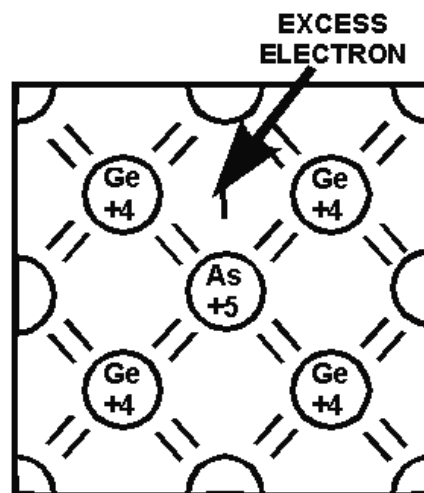

Figure 1-10.—Germanium crystal doped with arsenic.
When a pentavalent (donor) impurity, like arsenic, is added to germanium, it will form covalent bonds with the germanium atoms. Figure 1-10 illustrates this by showing an arsenic atom (AS) in a germanium (GE) lattice structure. Notice the arsenic atom in the center of the lattice. It has 5 valence electrons in its outer shell but uses only 4 of them to form covalent bonds with the germanium atoms, leaving 1 electron relatively free in the crystal structure. Pure germanium may be converted into an N-type semiconductor by "doping" it with any donor impurity having 5 valence electrons in its outer shell. Since this type of semiconductor (N-type) has a surplus of electrons, the electrons are considered MAJORITY carriers, while the holes, being few in number, are the MINORITY carriers.